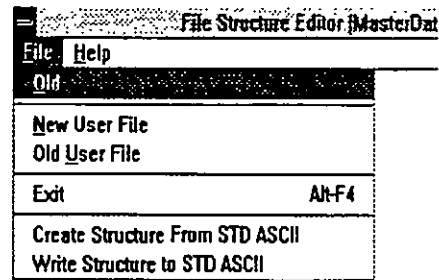

Figure 2-5
3. Click on **File**. The menu opens as shown in Figure 2-5. You will notice the following options: Old, New User File, Old User File, Exit, Create Structure From STD ASCII, and Write Structure to STD ASCII. STD is short for Standard. Forget for the time "User Files."